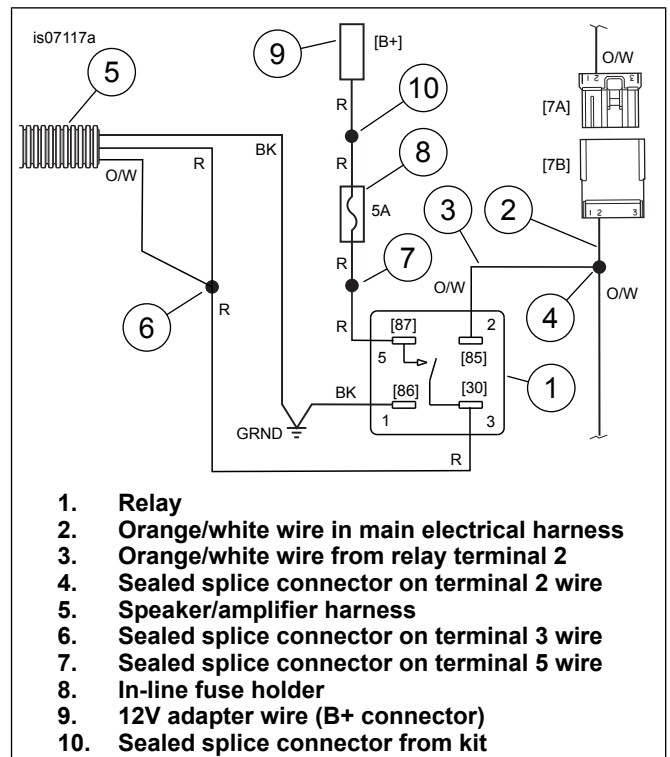
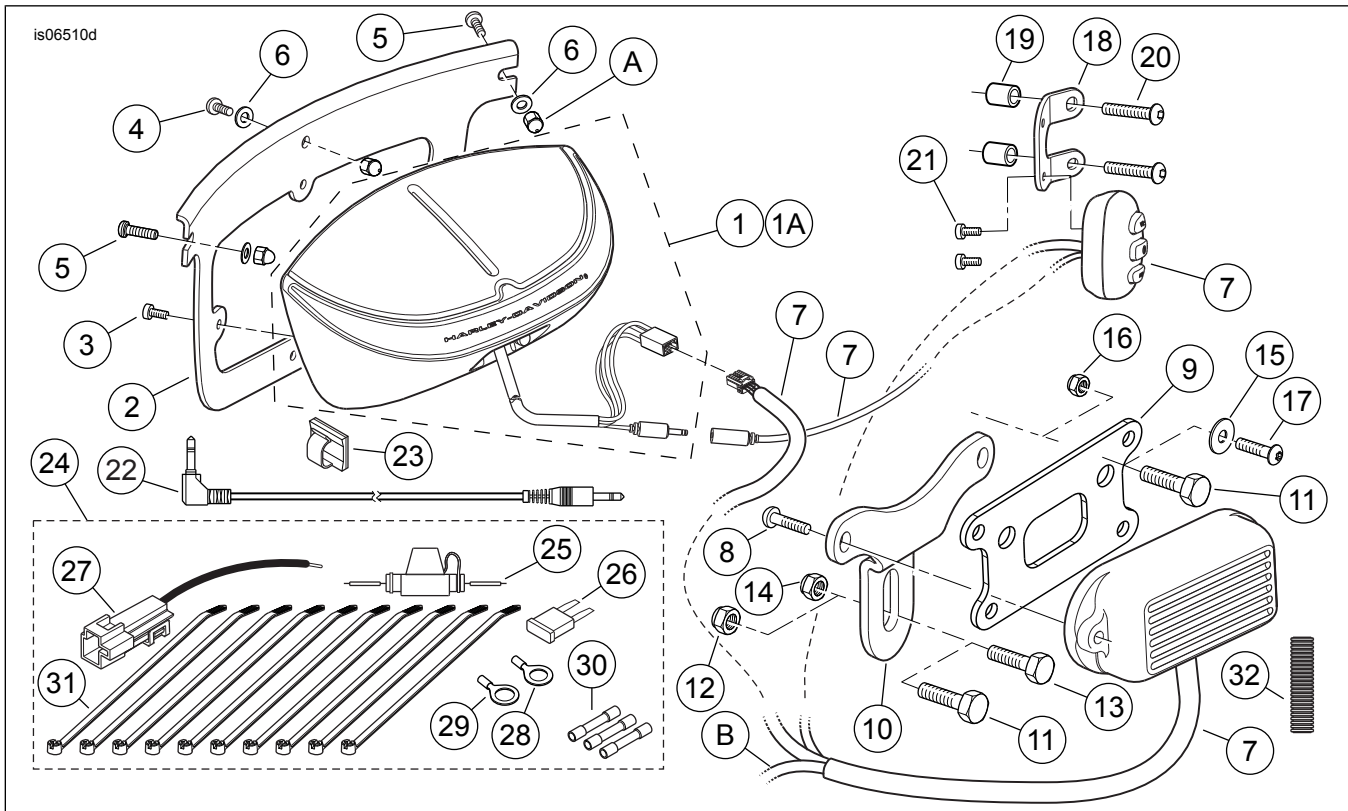

Figure 5. Wiring Diagram, Speaker/Amplifier Harness to Relay
Figure 7. Service Parts, Windshield-Mounted Speaker and Amplifier Kit
2. See Figure 7. Get the electrical hardware pack (24) from **THIS** kit.
3. Select the in-line fuse holder (25) and one blue sealed splice connector (30) from the hardware pack.
5. See Figure 5. Find a suitable location under the seat for the relay (1), so that the terminals face **down or horizontally**. The terminals should not face upward.
6. Cut the **orange/white** wire (2) in the **main electrical harness** near the rear lighting connector [7].
7. See the service manual appendix. Use a suitable radiant-heating device to splice and seal the two cut orange/white wires to the sealed splice connector (4) on the orange/white wire (3) from relay terminal 2.
13. See Figure 7. Select the 6.4 mm (1/4 in) ID ring terminal (28) from the electrical hardware pack.
1. Use cable straps (31) from the electrical hardware pack to secure the amplifier wiring to the frame downtube. **For Road King models:** Use the existing P-clamp on the left side of the frame near the steering head to secure the amplifier wiring.
2. Coil excess wire under the fuel tank, inside the nacelle or under the handlebar clamp where it will not interfere with steering function. Install the 5A fuse (26) in the in-line fuse holder on the red wire.
4. See Figure 7. The 3.5 mm connector from the hand control can be secured to the handlebar with cable straps or secured to the upper triple clamp or nacelle with the adhesive-backed clip (23) from the kit. If using the clip: